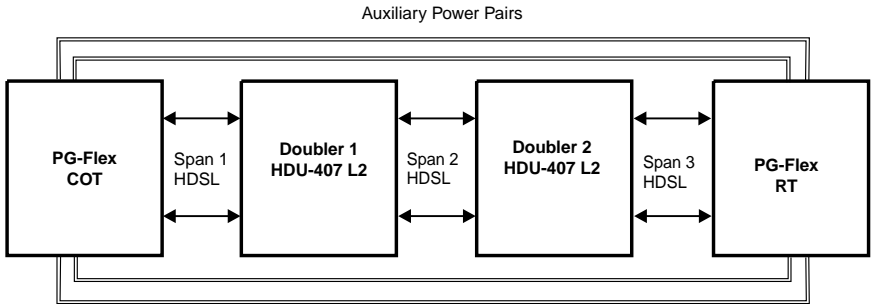

Figure 1. Typical HDU Installation with PG-Flex
Figure 1 shows a typical HDU-407 List 2 installation for the PG-Flex subscriber carrier system. For each doubler installed between the PG-Flex Central Office Terminal (COT) and Remote Terminal (RT), two auxiliary power pairs are required. A maximum of two doublers may be installed in a PG-Flex system. With two doublers, four sets of auxiliary power pairs must be installed between the COT and the RT. These auxiliary power pairs must be the same wire gauge (or lower) as those assigned to the HDSL pairs.